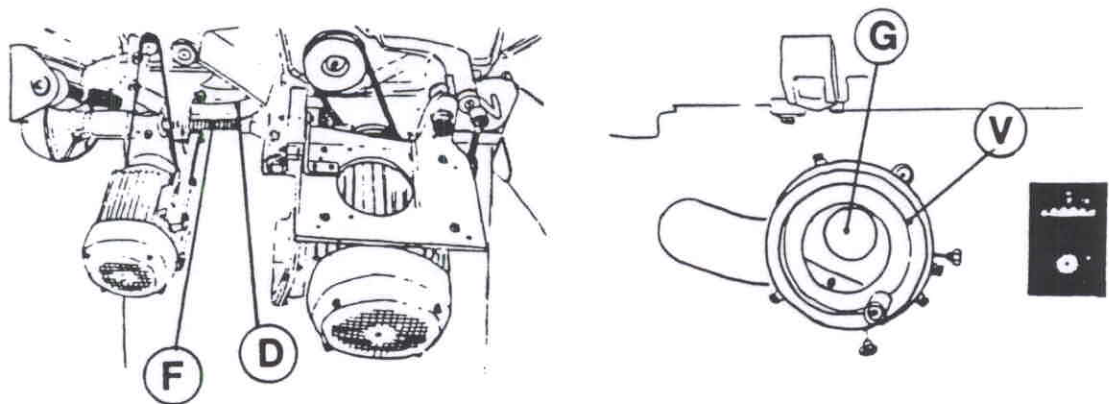

Fig.26
Turn handwheel (V) clockwise to raise the blade: the saw blade height is right when it exceeds the workpiece thickness 1-1.5 cm. After the adjustment, lock handwheel (V) by knob (G fig.26)